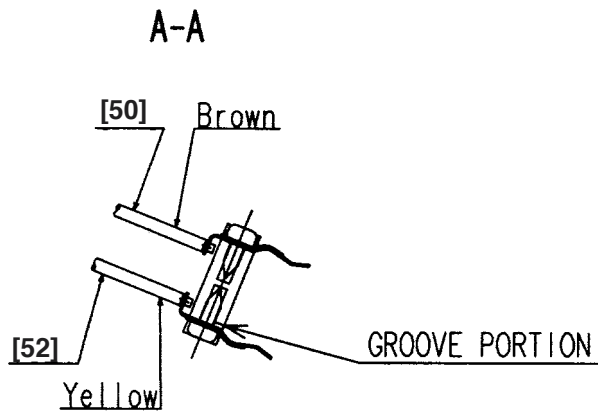

Fig. 8
(c) Connect the internal wires as illustrated in Fig. 8. Mount the Knob [47] and Spring (F) [46] without fail.